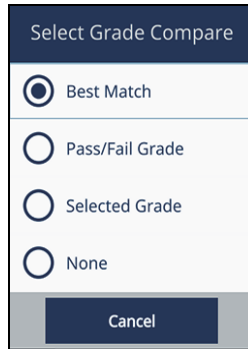

Figure 2-65 Select Grade Compare dialog box
2. Select one of the options in the **Select Grade Compare** dialog box (see Figure 2-65 on page 80).